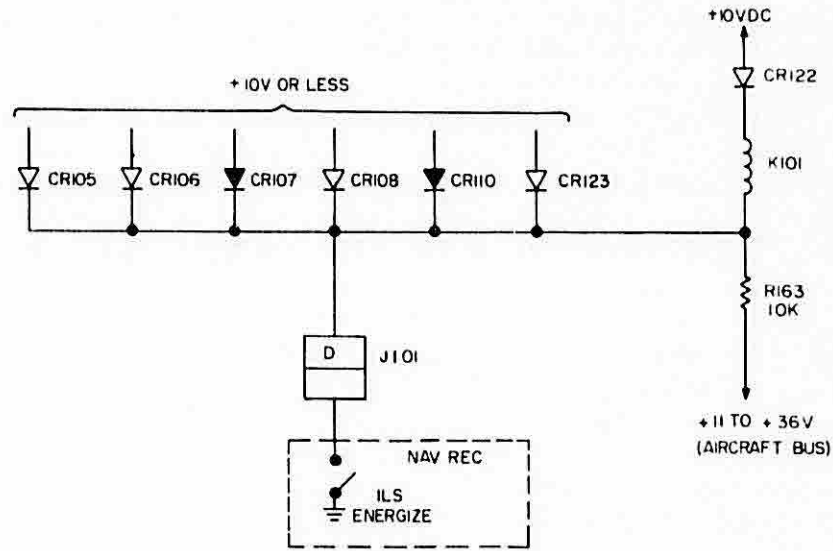

FIGURE 4-5 VOR-LOC SWITCHING
4.5.1 VOR-LOC SWITCHING (Figure 4-5)